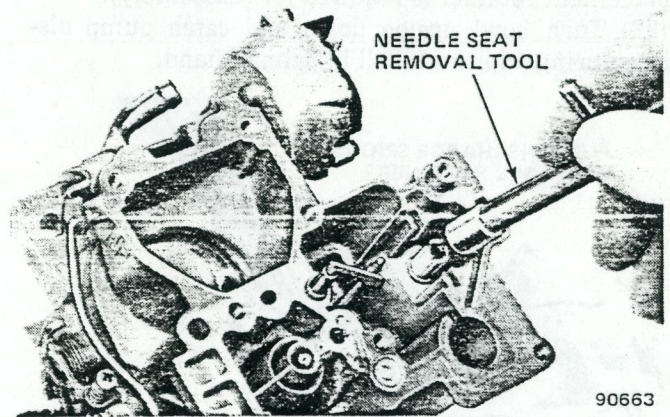

Fig. 1J-74 Carburetor Model E2SE—Inlet Needle Seat Removal
(15) It is not necessary to remove vacuum break rod, or air valve rod from levers in air horn unless replacement of rods is necessary. Plastic bushings on levers may be cleaned in carburetor cleaning solution.
(16) Remove pump plunger from pump well.
(17) Remove pump return spring from pump well.
(18) Remove plastic filler block located over float valve.
(19) Remove float assembly and float valve by pulling up on retaining pin. Remove float valve seat and gasket with Seat Remover Tool J-22769 (fig. 1J-74).
(20) With removal Tool J-22769 or a wide-blade screwdriver that fully fits slot in top of jet, remove extended main metering jet from float bowl (fig. 1J-75).